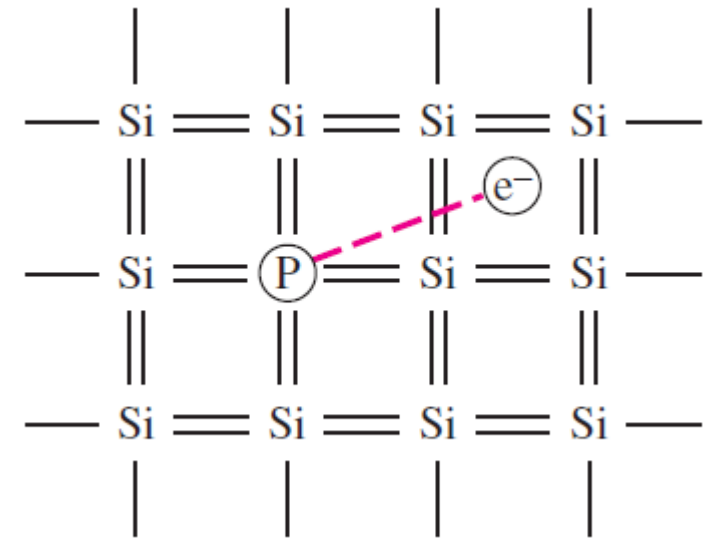

Figure 1.6(a)
- For example, when a Phosphorus **P** atom substitutes for a silicon atom, as shown in Figure 1.6(a):